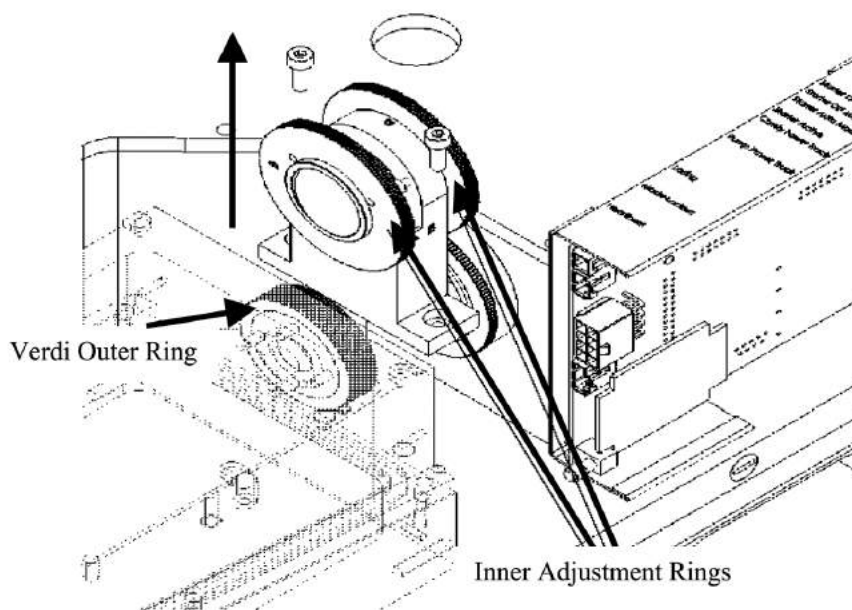

Figure 5.12-2. IBS Removal
6. Carefully slide the IBS assembly straight up making sure not to bump the inner IBS adjustment rings (see Figure 5.12-2).
2. Carefully slide the IBS between the two outer knurled rings back into its position. Make sure that the inner adjustment rings do not get bumped as the assembly is slid down (see Figure 5.12-2). The bearing ring side of the mount should face the Verdi pump.